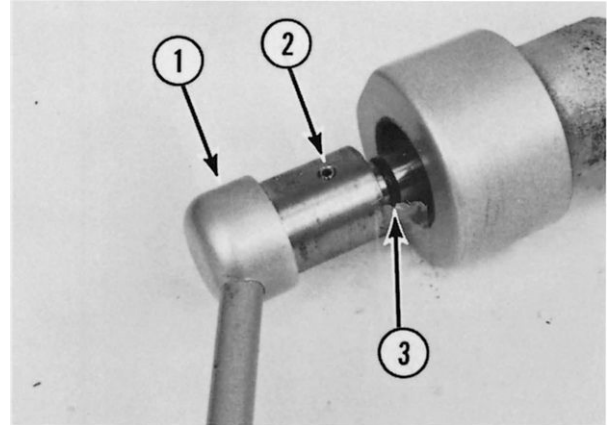

**Fig. 11-15**
- A. Drive the rollpin out of the cam assembly (1, Fig. 11-15).
- B. Drive the rollpin out of the hub and cam assembly (2, Fig. 11-15).